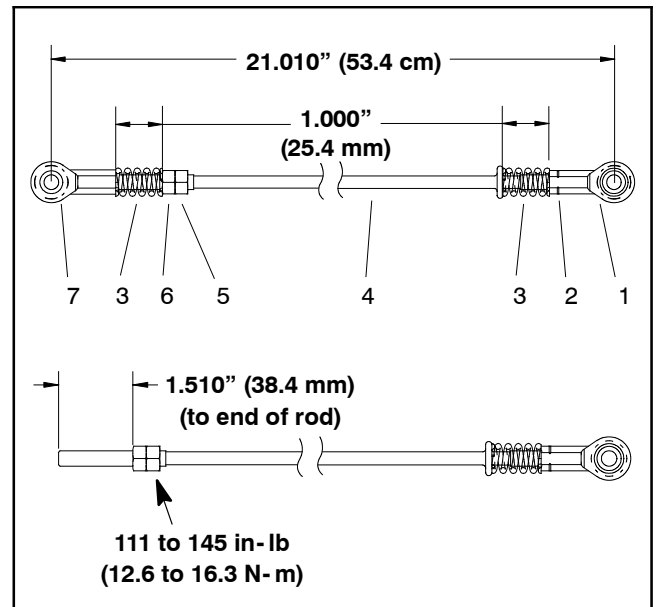

Figure 36
C. If rear pump linkage assembly (item 2) needs to be disassembled, note that rear balljoint has left hand threads and a groove to identify it. Linkage assembly components are shown in Fig. 36.
1. If rear pump linkage assembly was disassembled, use the following during assembly (Fig. 36):